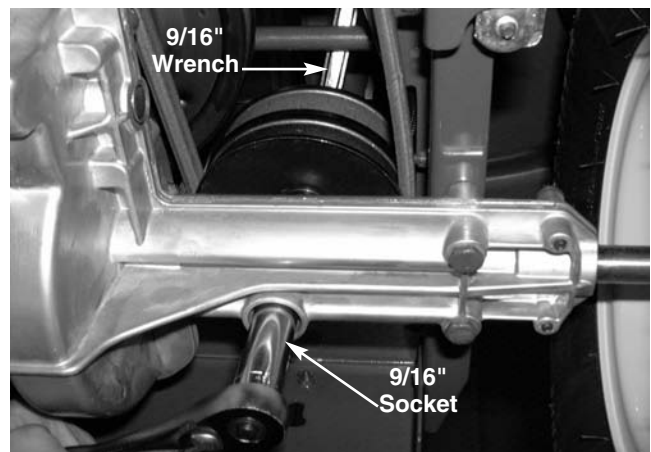

FIGURE 5.
- 1). Remove the hex bolt and lock nut securing the variable-speed pulley to the transmission using a 9/16" socket and a 9/16" wrench. See figure 5.